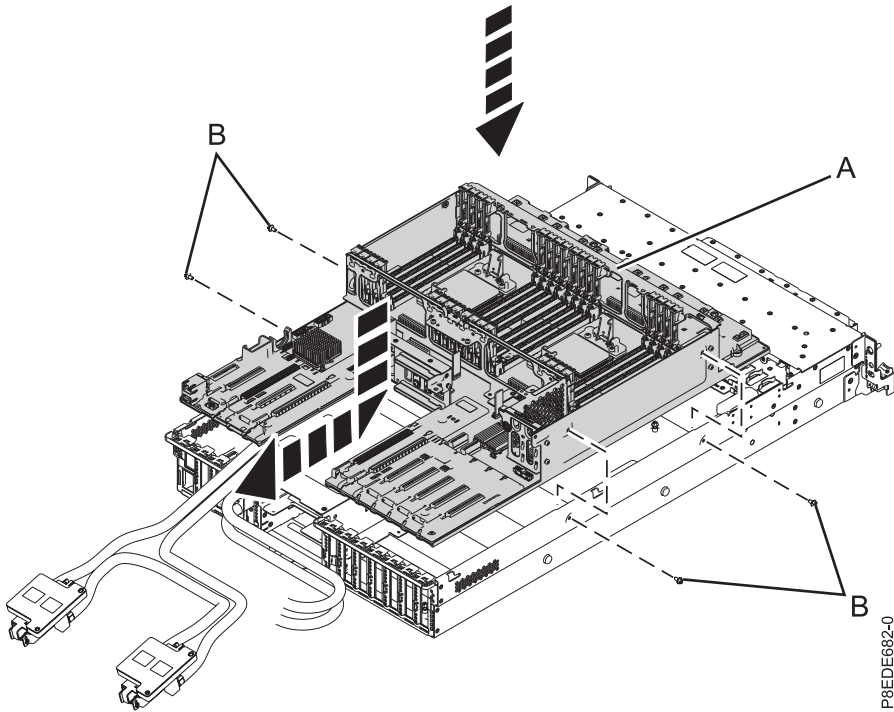

Figure 66. Installing the system backplane
- a. Grasp the top guide rail (A) and lower the backplane into position while you are sliding it toward the rear as shown in Figure 66 on page 70.
- b. Using a Phillips screwdriver, install and tighten four screws (B) to secure the backplane to the side of the chassis as shown in Figure 66 on page 70.